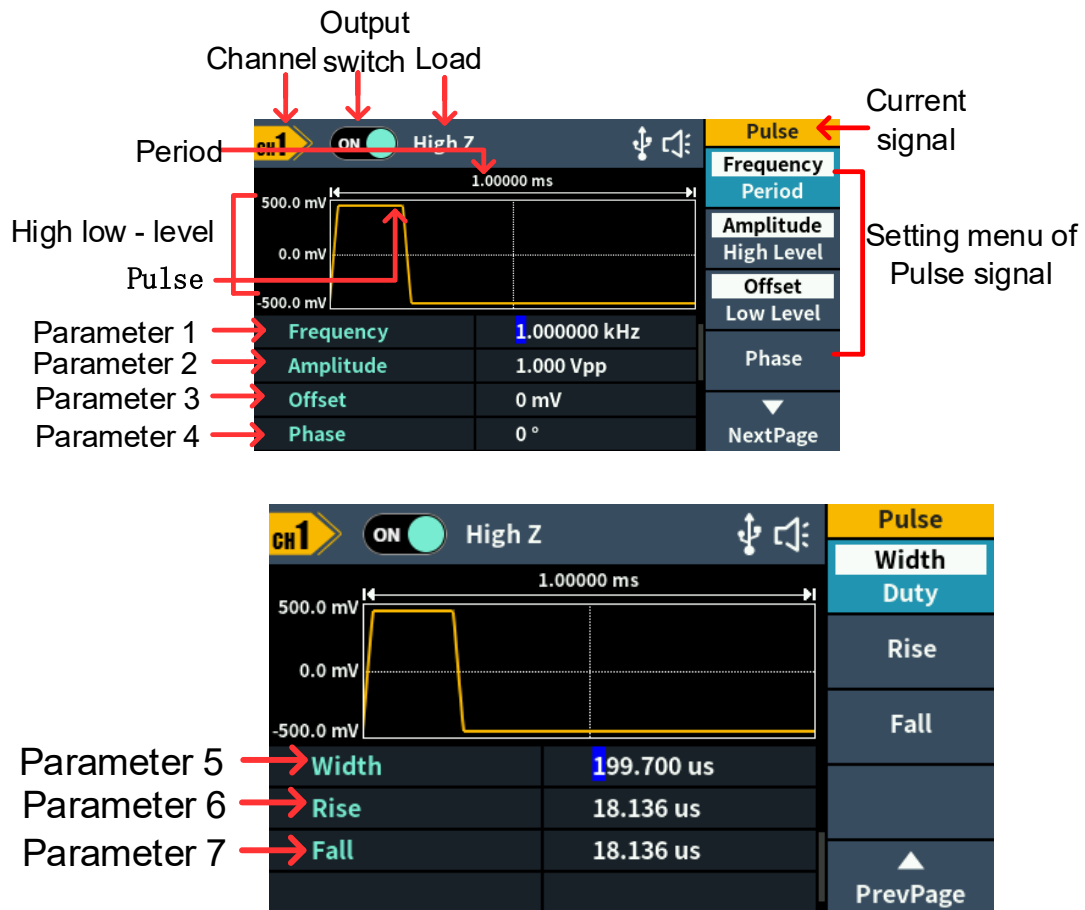

Figure 5-7: Pulse wave user interface
**Parameter 5** of Figure 5-7, a blinking cursor appears in the parameter value. Turn the **knob** to change the value directly, or use the **numeric keypad** to input the desired value and choose the unit.
Press the **Rise** softkey, the chosen menu item is highlighted. Press the **Rise** softkey to switch between Rising Time and Falling Time. In **Parameter 6** of Figure 5-7, a blinking cursor appears in the parameter value. Turn the **knob** to change the value directly, or use the **numeric keypad** to input the desired value and choose the unit.
Press the **Fall** softkey, the chosen menu item is highlighted. Press the **Fall** softkey to switch between Rising Time and Falling Time. In **Parameter 7** of Figure 5-7, a blinking cursor appears in the parameter value. Turn the **knob** to change the value directly, or use the **numeric keypad** to input the desired value and choose the unit.